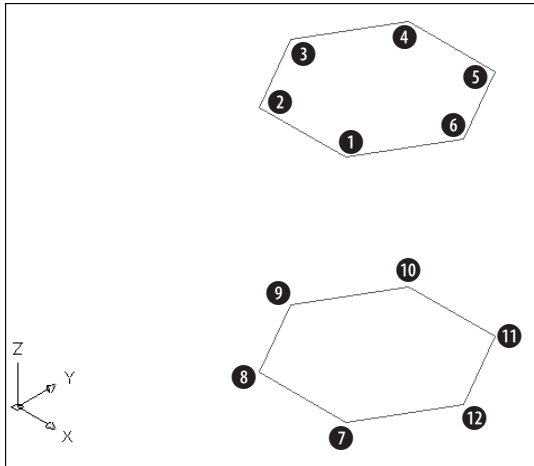

Figure 23-10: The two hexagons are the basis for a night table.
2. Save it as `ab23-02.dwg` in your AutoCAD Bible folder. Two hexagons have been drawn, one 24 inches above the other, on the Const layer, as shown in Figure 23-10.